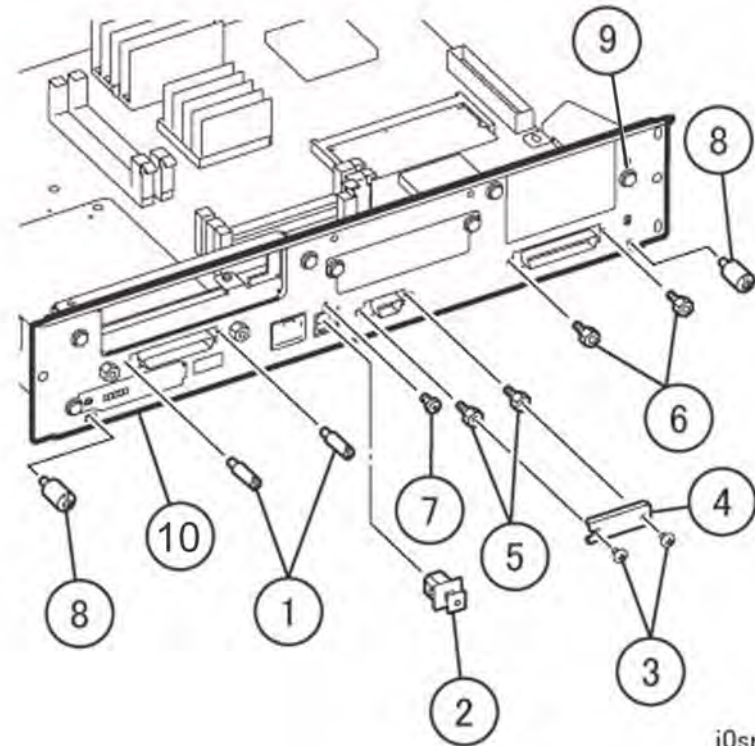

Figure 2 Removing the ESS Box Panel
3. Remove the ESS Box Panel (Figure 2).